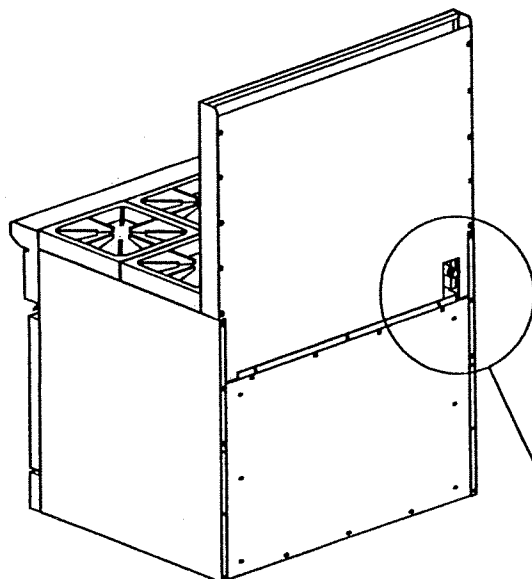

Figure 2
Step 2. Lower Riser Assembly all the way down, until it rests on the Fire Box Top, as shown in Figures 2 and 3.